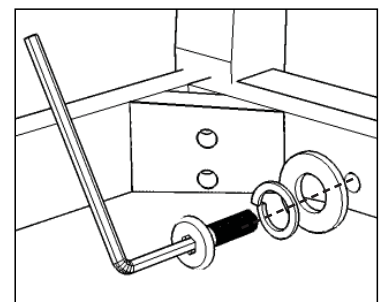

Figure 3
Attach Back Frame (F) to unit with Flat Washers, Spring Washers, Head Cap Bolt (short), Head Cap Bolts (long) and Wood Screws. (See Figures 3 and 4)